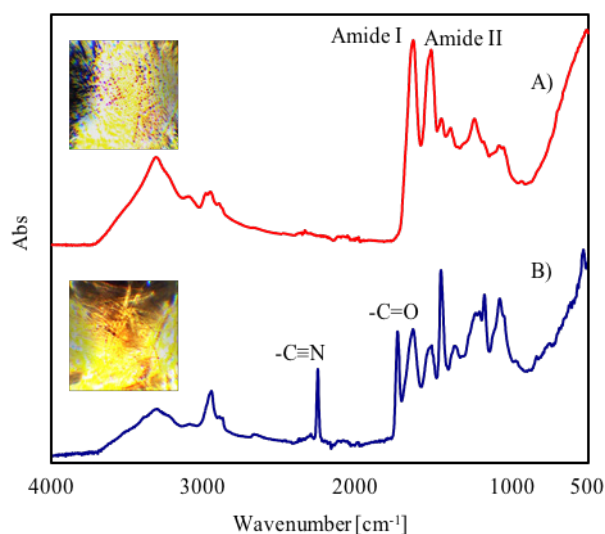

Figure 3. IR spectra and images of beige cloth (top) and red cloth (bottom)
Figure 3 Images and IR spectra of a neutral colored cloth and a beige/green cloth. The peaks around 1640, 1550 cm^{-1} assigned as amide I, II are observed in spectrum (A). Peaks assigned as nitrile (2300 cm^{-1}) and carbonyl (1720 cm^{-1}) are observed in addition to the amide I, II peaks. These results indicate that (A) is pure wool and (B) is a mixture of acrylic and wool.